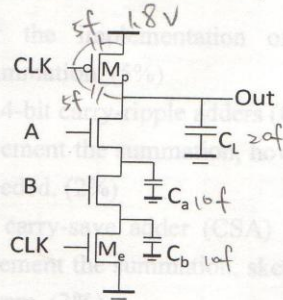

Fig. 1
1. Consider a dynamic logic (NADN2) as shown in Fig. 1. Assume the  $C_a = C_b = 10\text{fF}$ ,  $C_L = 20\text{fF}$ ,  $C_{gs}(C_{gd})$  of  $M_p = 5\text{fF}$ , and  $V_{DD} = 1.8\text{V}$ . (8%)
- When cascading two identical dynamic NAND2 as shown in Fig. 1 together, explain the possible error issue and solution. (2%) (Hint: monotonic issue)